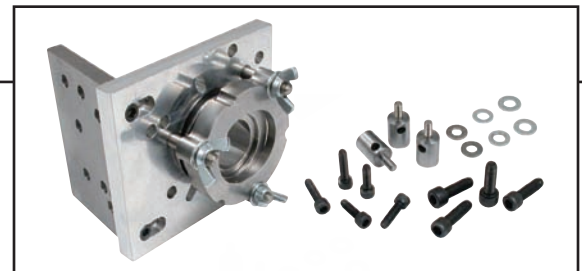

Figure 1
NOTE: Tighten two 3/8-16 nuts (not included) as jam-nuts (see Figure 1) onto the longer threaded end of the stud to help with stud installation. Remove nuts when done. Verify clamp plate slides easily over studs before proceeding.
2. Mount the **SERVO-FIX** at the hole locations identified on the base plate and case (see Figure 1) using screws from the hardware kit. Tighten fixture securely in place.